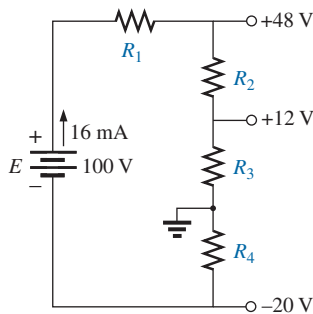

FIG. 5.123
40. Determine the values of $R_1, R_2, R_3,$ and R_4 for the voltage divider of Fig. 5.123 if the source current is 16 mA.